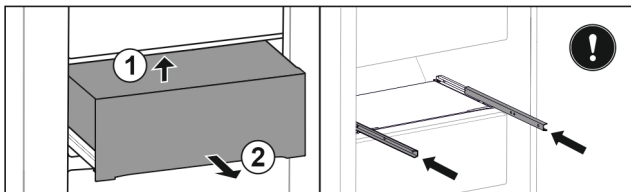

Fig. 140
- ▶ Lift drawer from below. Fig. 140 (1)
- ▶ Remove drawer to the front. Fig. 140 (2)